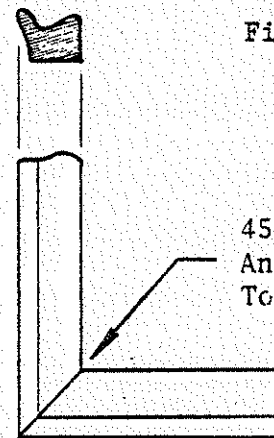

Figure 3
3. Apply adhesive to the areas of the door seal that fits into the door and allow to air dry for approximately ten minutes. Note that the seal must be pre-formed with 45° miter cut and cemented together as shown in figure 3.